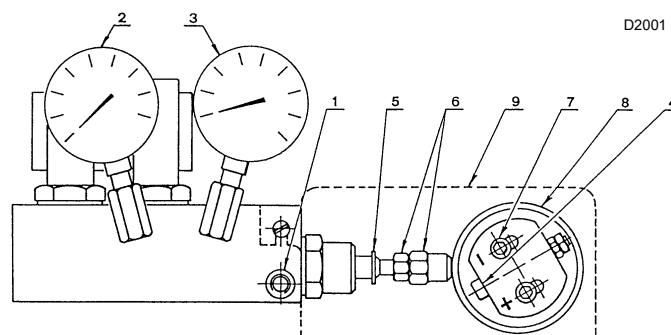
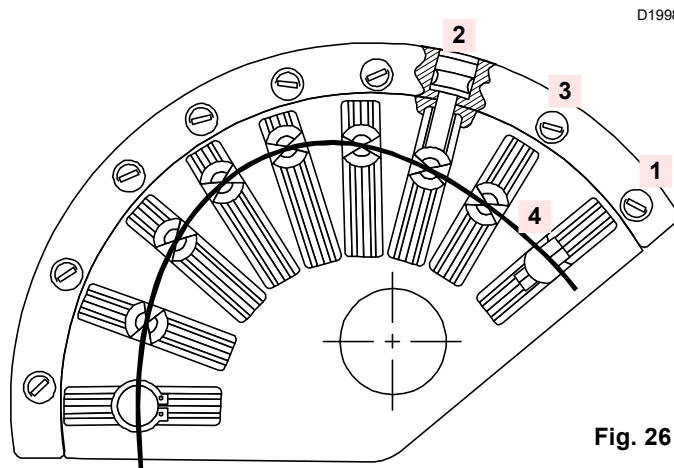

Fig. 22
Fig. 26
The pressure variation on the return line - pressure gauge 3)(Fig. 22 on page 25) changes the flow rate of the fuel coming out of the nozzle.
- If at the maximum delivery of the nozzle (maximum pressure on the return line) pressure oscillations can be seen on the pressure gauge 3), slightly reduce the pressure until they disappear (Fig. 22).
Key (Fig. 22)
The combustion head moves at the same time of the eccentric 8), (Fig. 22) and variable profile cam 1) (Fig. 26).
The setting of the air damper is carried out by acting on the variable profile cam 1)(Fig.26). This operation must be performed after regulating the pressure variator and the combustion head. With burner on, disconnect the servomotor from the power supply and release it manually by pressing the release button placed on the lower side.
Lengthening the tie-rod is recommended when the air damper moves within a reduced angle (air damper approx. halfway its stroke at the maximum output). In this way, a too curved cam profile 4)(Fig. 26) can be avoided.